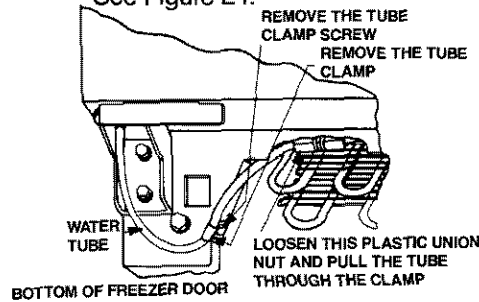

FIGURE 24
- Disconnect freezer door bottom hinge water line by loosening the 1/4" O.D. plastic tube union nut. See Figure 24.